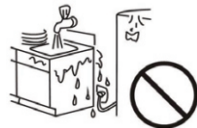

Fig2
- Do not install the appliance in moist and wet place.(Fig2)